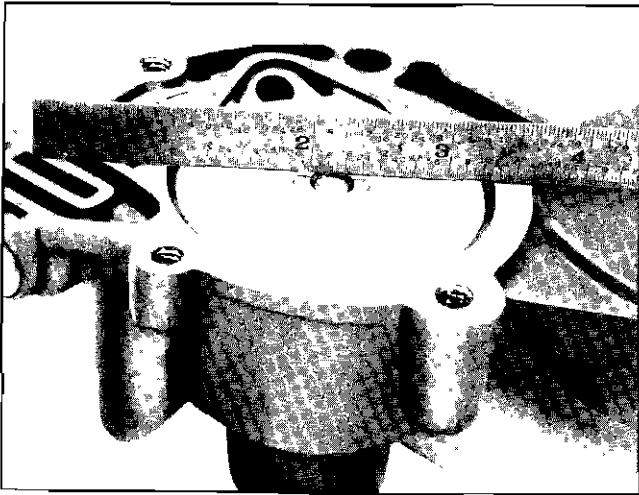

Fig. 134 Accumulator Piston Assembly Installed in Accumulator Body
9. Install accumulator piston assembly in accumulator (Fig. 134).